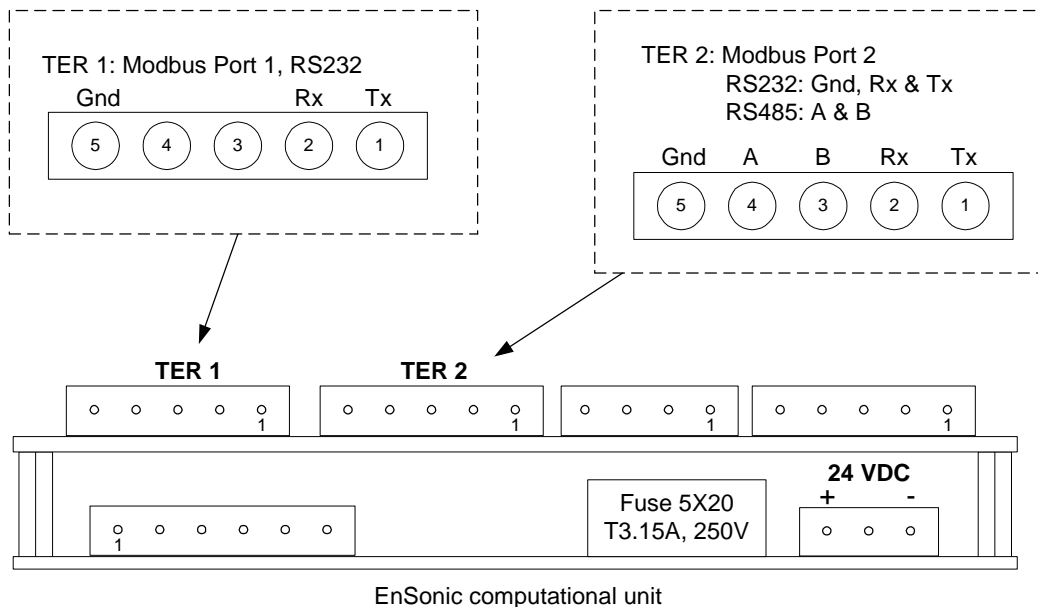

Figure 2, Terminal lay-out
The data communication wires are connected to the processor board of the EnSonic located directly above the 2VOS body. Fig 2 shows the terminal lay-out of this board.
- 1) in the Eex-d box the EnSonic computational unit is mounted upside down, consequently the pin orientation shown in figure 2 must be regarded from left to right (in the box pin 1 is on the left side of the terminal)